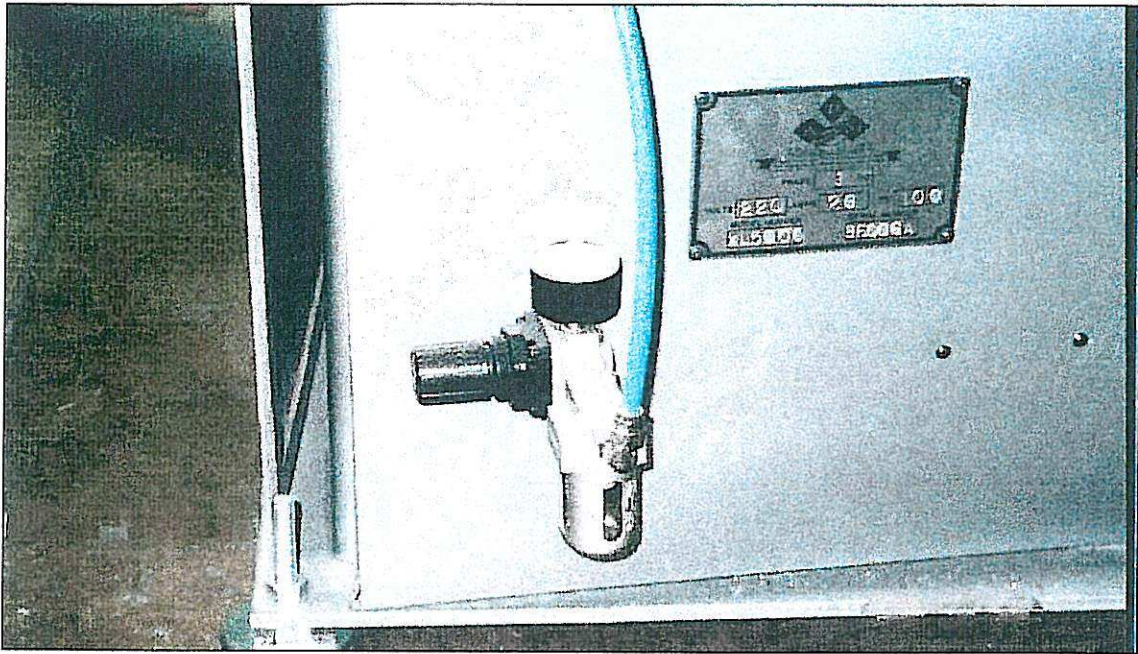

Figure 2.11
P. The air hose from the compressor must be attached to the air filter located on the rear of the right endstand. See *Figure 2.11*.